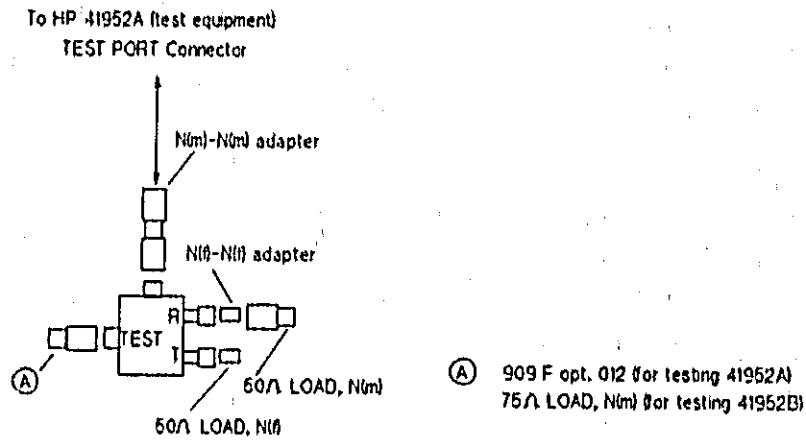

Figure 4-6. RF INPUT connector Port Match Test Setup
- a. Connect the HP 85032B's N(f) LOAD standard to the REFLECTED (T) connector of the HP 41952A/B (under test).
- b. Connect the HP 85032B's N(m) LOAD standard to the INCIDENT (R) connector of the HP 41952A/B (under test) using the N(f)-N(f) Adapter, as shown in Figure 4-6.